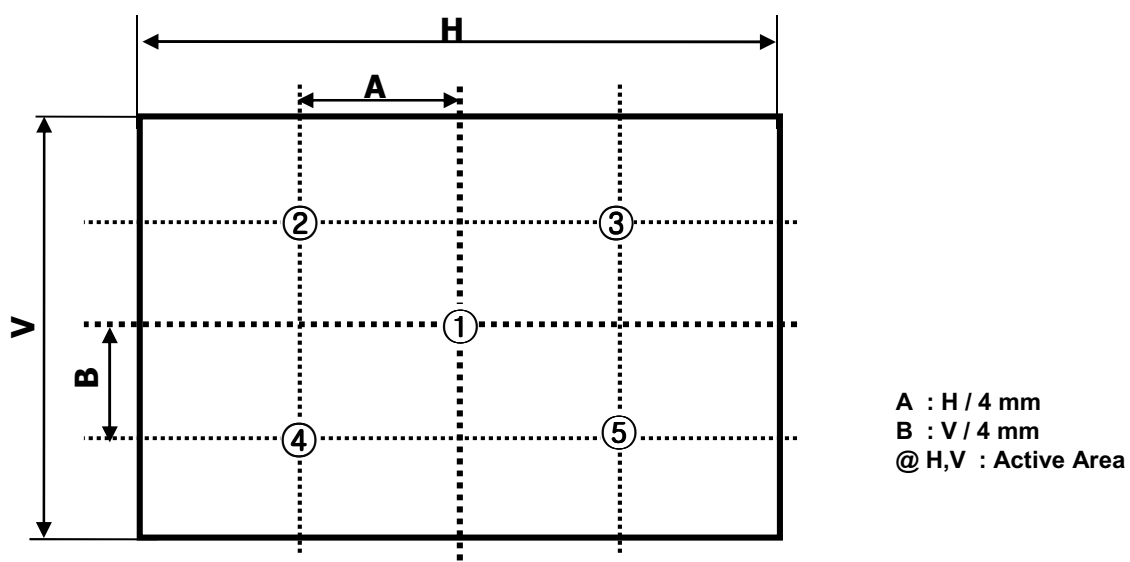

FIG. 2 5 Points for Luminance Measure
n = the Position number(1, 2, 3, 4, 5). For more information, see FIG 2.
2. Surface luminance are determined after the unit has been 'ON' and 1 Hour after lighting the backlight in a dark environment at 25±2°C. Surface luminance is the luminance value at center 1-point across the LCD surface 50cm from the surface with all pixels displaying white. For more information see the FIG. 2.
For more information, see the FIG. 2.